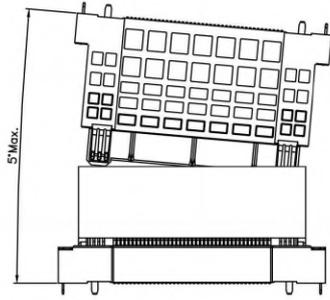
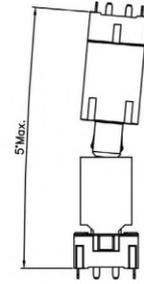

图 3/Fig3
图 4/Fig4
**g.**图 3 及图 4 所示指导角度，插入前不可大于此角度（未锁定）；
Guide Angle as shown in figure 3 and figure 4 ,not greater than this Angle before insertion (not locked)